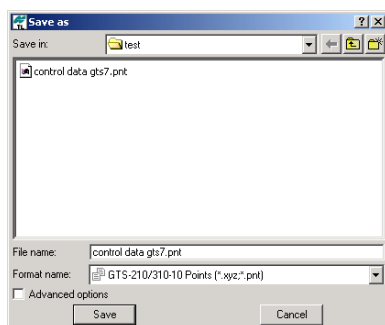

Figure D-4. Save File for Total Stations
3. Enter a *File name* and click **Save** (Figure D-4).